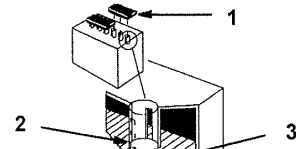

Figure 23
1. Open covers to see into the cells. The electrolyte must be up to the lower part of the tube (Fig. 23).
Important Do not allow the electrolyte to get below the plates. (Fig. 23).
2. Lift off the filler caps (Fig. 23).
3. Slowly pour distilled water into each battery cell until the level is up to the lower part of the tube (Fig. 23).